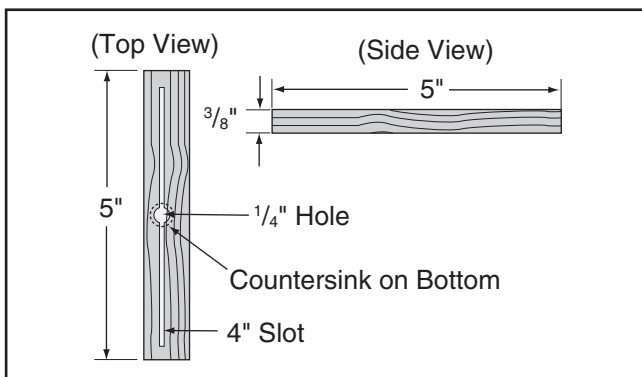

Figure 107. Miter bar pattern.
5. Cut a miter bar that will fit in the table miter slot approximately 5" long, as shown in **Figure 107**.